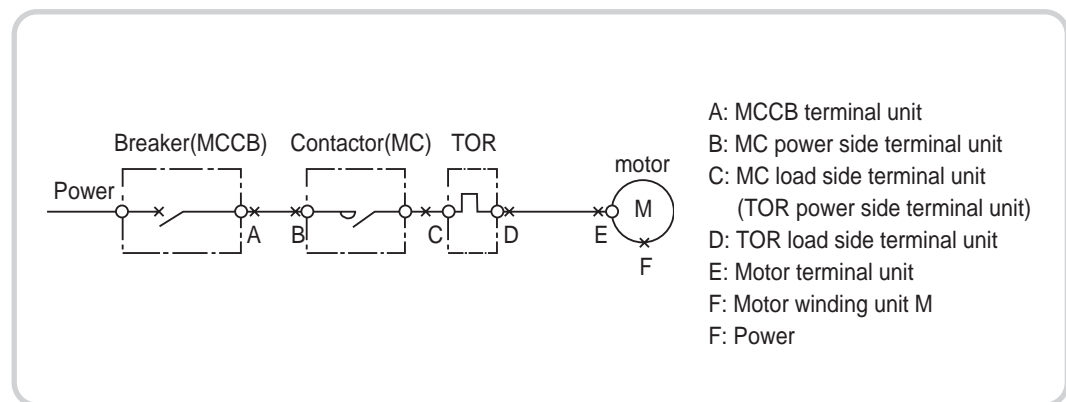

Fig. 70. Branchcircuit's short circuit points
In an MCCB which has a motor with a load and branch circuit with a magnetic switch, short circuit points related with this breaker are the six spots A through F in fig. 70 and since all other points have almost no possibility of a short circuit fault, they are not considered. Therefore short circuit faults on each point are investigated as below. At first, KSC and IEC standards' protection cooperation type as protection cooperation degree (p233) was introduced but if there is short circuit fault on C or D point of fig. 70, the short circuit current is big and permitted over current of Metasol series magnetic contactor is as shown on table 5. So generally protection cooperation type will be Type "1" and it is difficult to set it as Type "2". But when the short circuit point is on E or F of fig. 70, current decrease by wiring's impedance is quite big and the calculated result (higher impedance from D point is 0.) for wire length, 50m and 100m between D and E of fig. 70 is value shown on table 6. In fact, higher impedance is also added from D point so if there is short circuit to E point, the current which flows to magnetic switch gets smaller than the value on table 5. In this case, there is big possibility of having Type "2" as the cooperation type. If there is fault on F point, current gets smaller so the condition is better than E point.
Based on Metasol series magnetic contactor's permitted over current(the value in the case of no current limit of short circuit current with MCCB breaking time as 10ms), the calculated result of wire length which is needed to make protection cooperation Type"2" possible, is stated on table 5. This value is also calculated with higher impedance from D point as 0, so actual wire length will become a little shorter than this. Even when the length of wire is short, it is relatively easy to make possible up to certain length by methods as (1) enlarge magnetic contactor's size, (2) use MCCB with current limit effect, etc. over current resistant quantity is stated on table 4 but except small quantity rated heater, generally coordination Type"2" is relatively easily satisfied. In the case of a short circuit fault on A or B point of fig. 70, if the MCCB's breaking capacity is sufficient, there is no problem.
As investigated above, if each selection is correct, coordination of Metasol series MCCB and magnetic switch is relatively easily satisfies 1~8 details of coordination conditions (p195). But during the event of a disconnection fault, it becomes about type"2" of KSC and IEC standards coordination for short circuit on E or F point of Fig. 70 or type "1" for short circuit on C or D point. Depending on short circuit protection device, it is possible to have type "2" of coordination type even with short circuit fault of point C or D. But point C or D's short circuit occurs in magnetic contactor or TOR's terminal unit so it is impossible to avoid insulation deterioration between terminals and terminal's burnout. Eventually a magnetic switch needs to be exchanged so even with type "2" of coordination type, it should be regarded as having fewer advantages. So for coordination coordination type during short circuit, type"2" is proper in the case of short circuit on E or F point and type"1" for short circuit on C or D point. If you interpret that 9th detail of coordination conditions(p195) is applied to the short circuit case on E or F point, as stated above, it can be said that combination of Metasol series MCCB and Metasol magnetic switch can be satisfied at certain level.